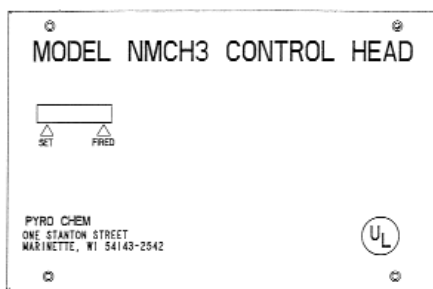

Figure 2-6a. Mechanical Control Head.
The Model NMCH3 Mechanical Control Head is a fully mechanical control head which can be connected to the PCI-15/17/25s/35/70 a fusible link detection system, a remote mechanical pull station (Model RPS-M), and a mechanical or electric shut-off valve. A micro switch (Model MS-SPDT, MS-DPDT, MS-3PDT, or MS-4PDT) can be ordered separately and field installed. There is no local manual actuation for the Model NMCH3. The Model NMCH3 control head can actuate a maximum of five (5) cylinders. See **Figure 2-6a**.